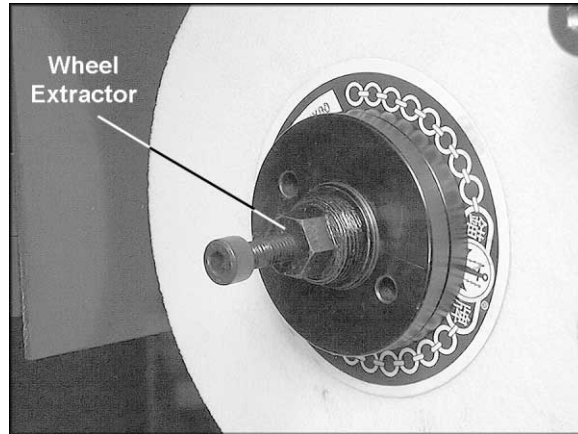

Figure 9
5. Place the large washer onto the shaft, then thread the flat nut (left-hand threads; rotate counterclockwise to tighten) onto the wheel seat shaft. See Figure 9. Tighten the flat nut using the provided arbor wrench.
2. Thread the wheel extractor into the shaft of the wheel seat (Figure 9) and pull off the wheel assembly.